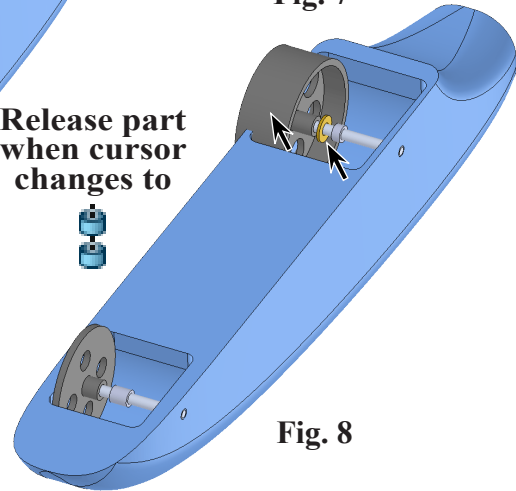

Fig. 8
Step 16. Repeat, Browse and place **WHEEL GT-R** and **WASHER** at Rear Axle, **Fig. 8**.